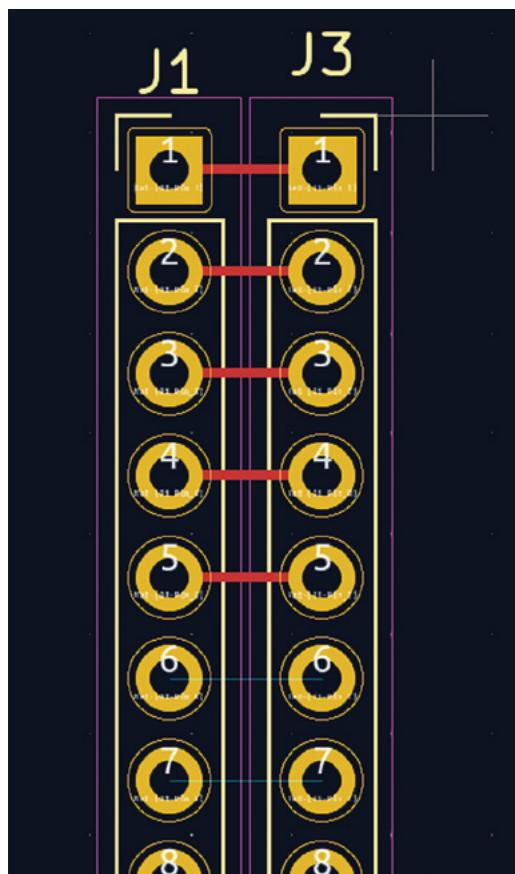

Figure 6
the grid to a more useful spacing. Select the 1 mm grid spacing, then left-click the rectangle tool. Left-click anywhere in the PCB Editor page and drag a rectangle (**Figure 6**). The rectangle should be snapping to the grid – we can drag it out until the labels tell us we are drawing a 21 mm width by 51 mm height rectangle. Left-click one more time to create the rectangle. Moving back to the Select Items (S) tool, we can now select the rectangle and press the **M** key to move it into position. Notice